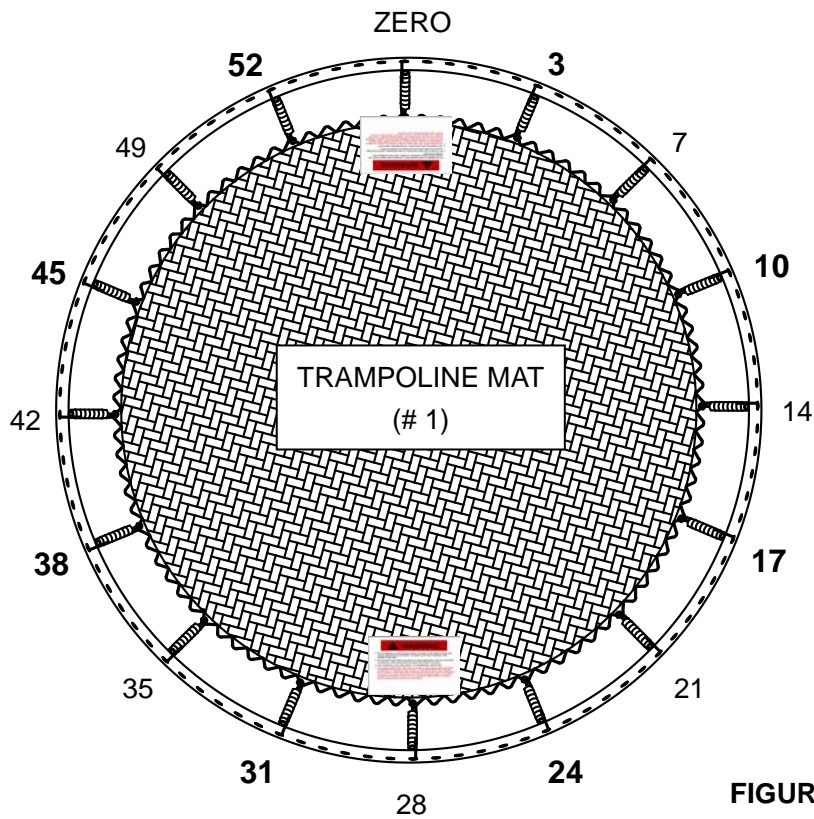

FIGURE 9
D. Continue to attach a spring at every 4 hole interval, ensuring even distribution of tension by attaching springs on opposite sides of the mat/frame in an alternating manner, i.e. 4 then 40, 67 then 31, etc as shown in FIGURE 9.